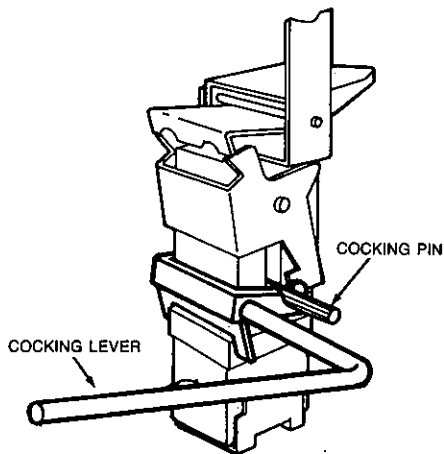

FIGURE 41
10. Insert cocking lever (Part No. 14995) on left side of the release mechanism, with the movable flange resting securely against the corner of the cartridge receiver and spring housing, and with the notched lever portion engaging the cocking pin on both sides of the release mechanism. See Figure 41.